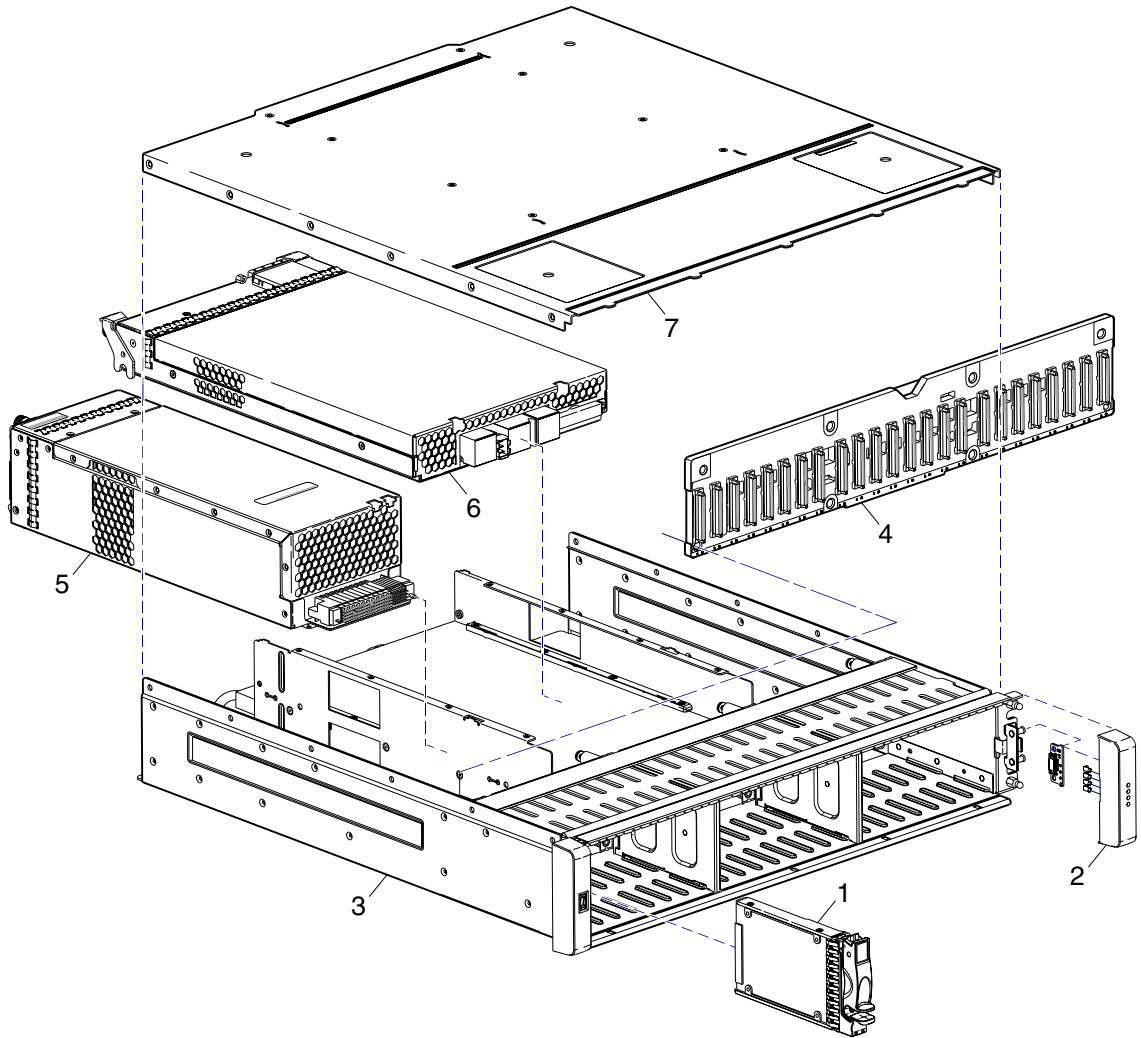
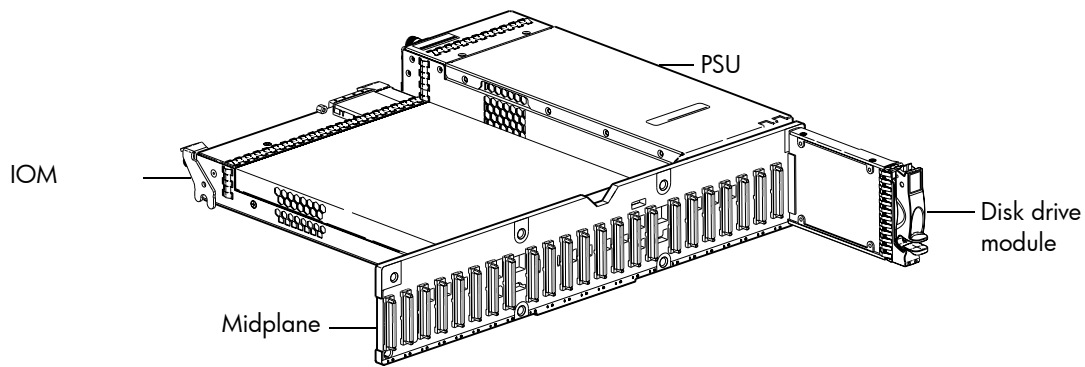

Figure 30 Controller enclosure exploded view (2U24)
Figure 32 Controller enclosure architecture — internal components sub-assembly (2U24)
- Exploded view: Figure 30 on page 209
- Internal components sub-assembly: Figure 32 on page 210
Figure 30 through Figure 32 are shown with the enclosure bezel removed